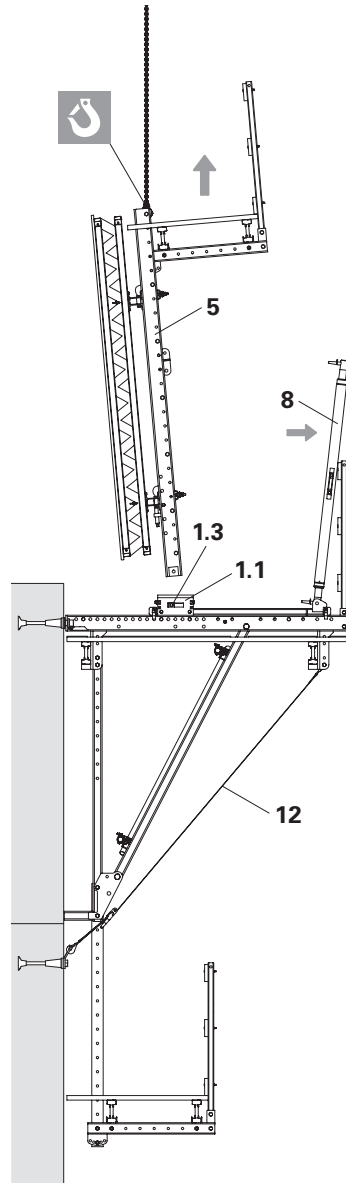

Fig. A6.01
2. Attach crane lifting gear to the Strongbacks (5).
4. Remove top Fitting Pins \varnothing 26 from the Heavy Duty Spindle (8) and then lean the Spindle against the guardrails and secure against falling.
- (Fig. A6.01)